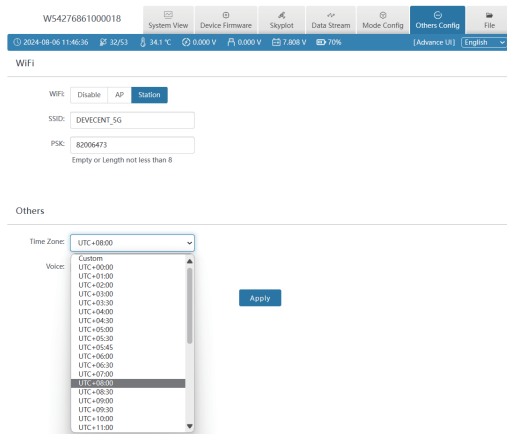

Figure 2.6-1
① WIFI : You can choose from three types: Disable/AP /Station, and you can set the WIFI name and password by yourself. When the device WIFI is used as the Station, you can access the network by entering the name and password of the external hotspot.
② Others: You can select the device's UTC time and set it according to your region. The interface is shown in Figure 2.6-1: